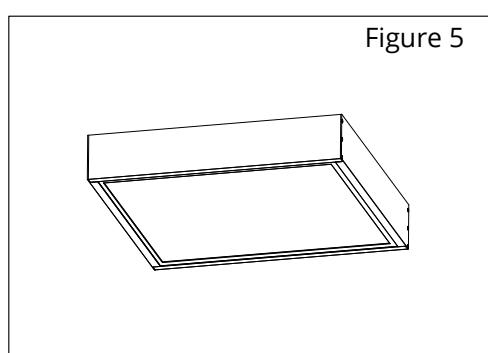

Figure 5
- 5** Connect the electrical wires from the incoming power to the LED Fixture. Reattach the previously removed side from step 3. Once this step is completed, the installation is considered complete. (refer to Fig 5).